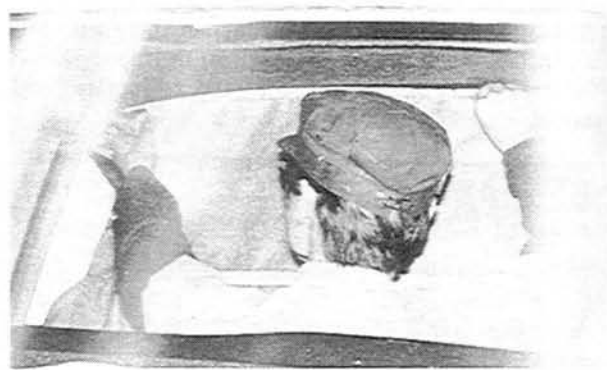

Fig. 14-28 Installing of listing wire
3. Insert both ends of each of the listing wires to their proper positions in successive order beginning from the rear as shown in Fig. 14-28.